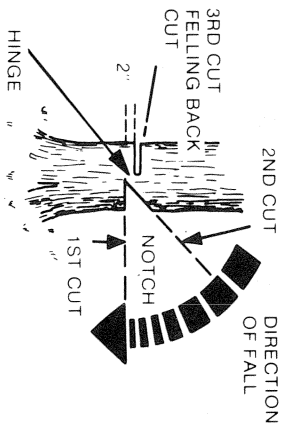

FIG. 26
5. Notching Undercut should be 1/3 the thickness of the tree at right angles to the direction of the fall (FIG. 26).
Felling back cut. Should be 2" above the horizontal notching cut. (FIG. 26). Do not cut through the hinge which will stop the tree from twisting and falling in the wrong direction.